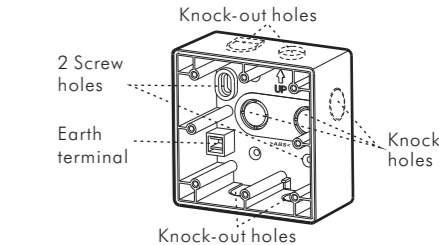

FIG.9
3.3.2.1 JB-40's 7 knock-outs are designed for various application (See FIG.9). Break the knock-out you intend the wires going through, then insert the wires into the corresponding hole.
3.3.2.2 Fix JB-40 on the wall with two Φ4x25.4mm wood screws (See FIG.11-A). Refer to FIG.9 for position of screw holes.